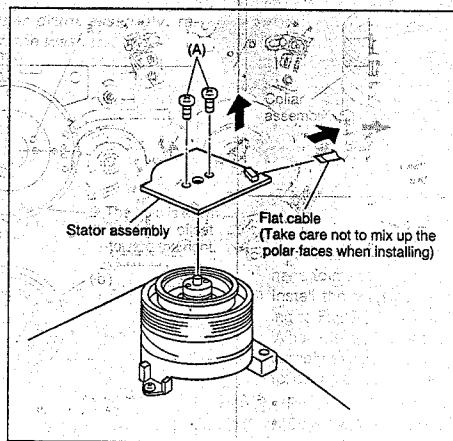

Fig. 2-2-36
- (1) Remove the stator assembly and rotor assembly. (See Fig. 2-2-36 and 2-2-37)
- (2) Loosen the screw of the collar assembly using a 1.5 mm hexagonal wrench, and remove the collar assembly. Also remove the brush, spring and cap at one time.
- (3) Remove the upper drum assembly and remove the washer using tweezers.
- (5) After installation, gently turn the upper drum with your hand to make sure that it turns normally.
- (6) Install the rotor assembly and stator assembly according to Fig. 2-2-36 and 2-2-38.
- (7) When installation is complete, clean the upper drum assembly and lower the drum assembly and carry out the following adjustments.